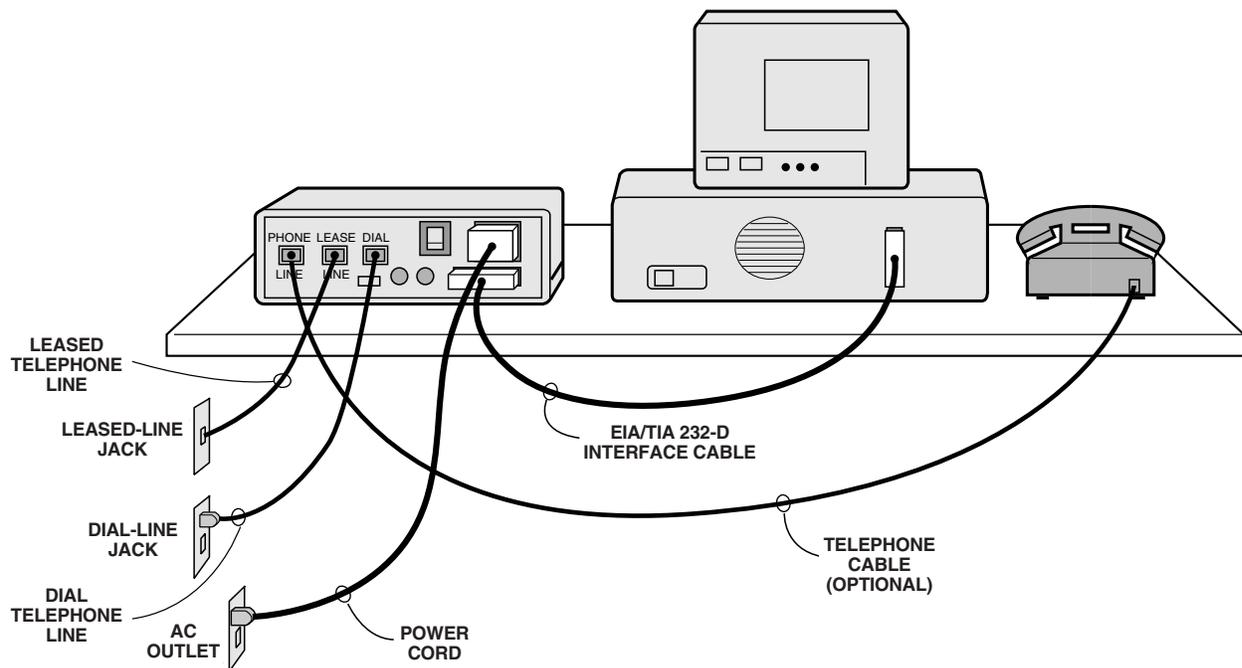

Figure 3-2. Modem Cabling.
Note: The cabling schemes and modem rear panels shown in Figure 3-2 are generic representations. They are intended as guidelines only.
1. Connect an EIA/TIA 232-D interface cable between your modem's rear-panel DTE connector and your DTE (see Figure 3-2).
1. At the rear panel of your modem, connect the end of the cable with the ferrite to the DIAL LINE jack (see Figure 3-2).
1. At the rear panel of the modem, connect one end of the modular cable to the LEASE LINE (or private line) jack. See Figure 3-2.